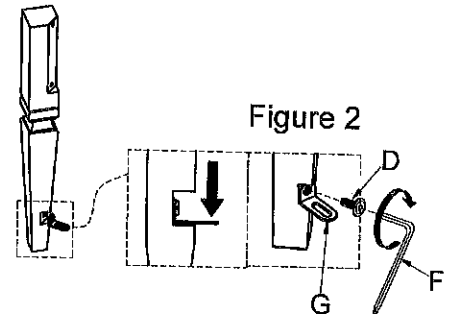

Figure 2
2. Attach Metal "L" (G) on the four Legs by using Bolt (D) with Allen Key (F). (See Figure 2).